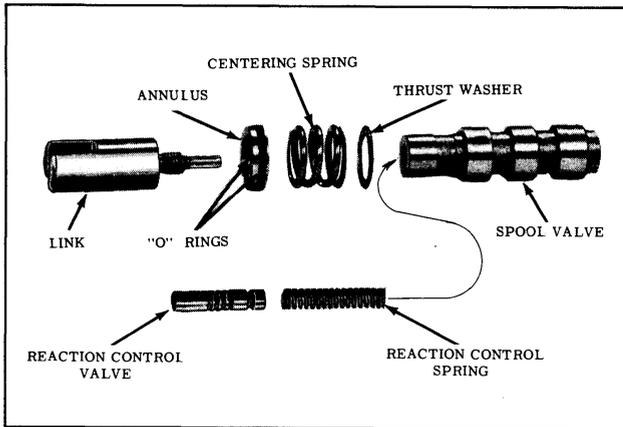

Fig. 5-35 Valve Assembly Nomenclature
- b. Remove the annulus, valve centering spring, and thrust washer from the spool valve. (See Fig. 5-35)
- To reassemble valve assembly: (See Fig. 5-35)